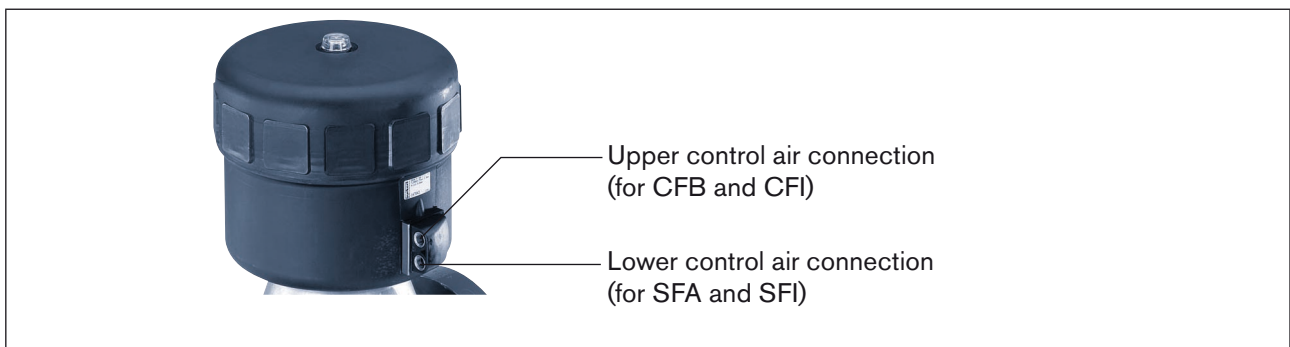

Figure 15: Control air connection
- Pressurize lower control air connection with compressed air (value as indicated on the rating plate) (see *Figure 15: Control air connection*).
- Pressurize upper control air connection with compressed air (value as indicated on the rating plate) (see picture below *Figure 15: Control air connection*).